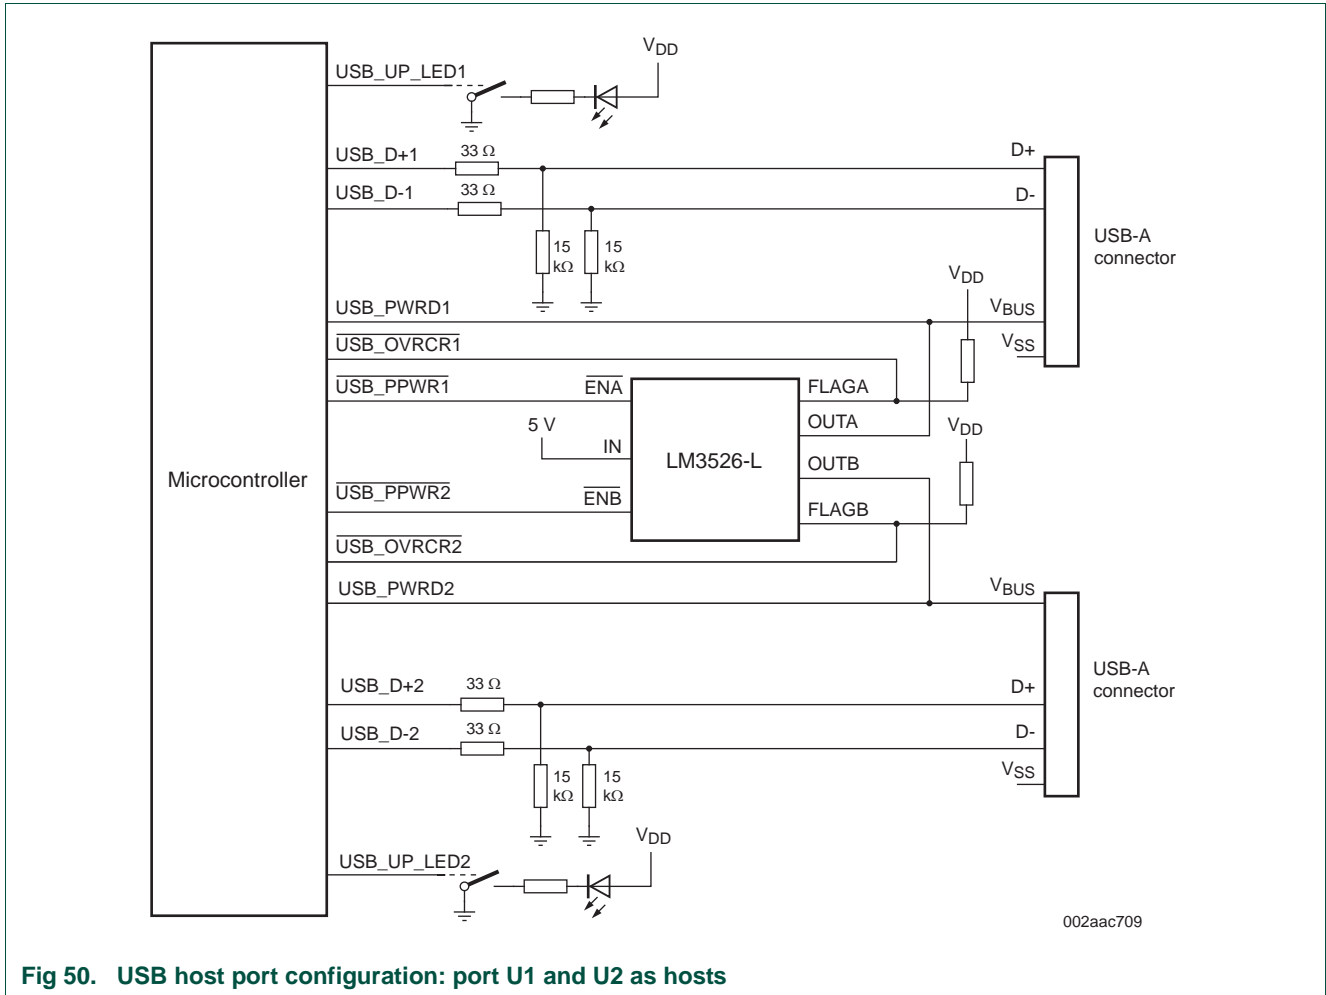

Fig 50. USB host port configuration: port U1 and U2 as hosts
- Two Host ports (see Figure 50)